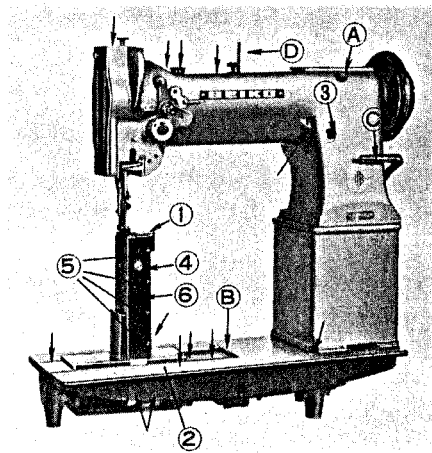
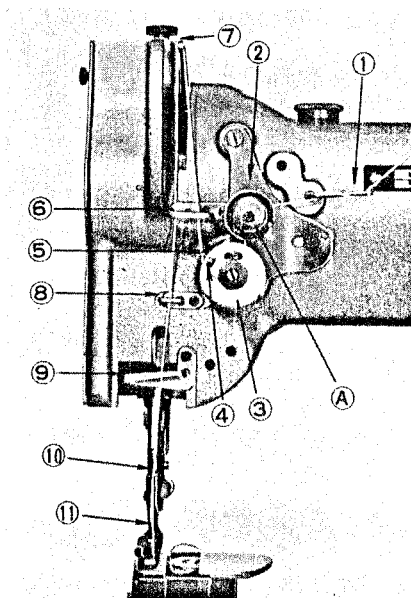

Fig. 1
Fig. 9
UPPER THREADING (Refer to Figs. 1 & 9)
Pass the thread from the unwinder from back to front through the lower hole in the pin (D, Fig. 1) from the right to the left through the upper hole in the pin, down through three holes (1, Fig. 9) in the thread guide, over from right to left between the tension discs (2), down from right to left around the thread controller (3) up into the fork (4) and (5) in the thread controller disc, up through the thread guide (6), from right to left through the hole (7) in the thread take-up lever, down through the thread guides (6), (8), (9) and (10) and from left to right through the eye of the needle (11). Lay about 5 cm long of thread with which to commence sewing.
The tension on the upper and lower thread should be equal so as to lock both threads in the center of the material to be sewn. The tension of the upper thread is adjusted by the screw nut (A, Fig. 9).
To change the length of stitch, open the arm cap (A, Fig. 1), where numeral numbers showing the length of stitch can be seen.
Press down the button (B, Fig. 1) in the bed plate of the machine and simultaneously turn the hand wheel slowly toward you.